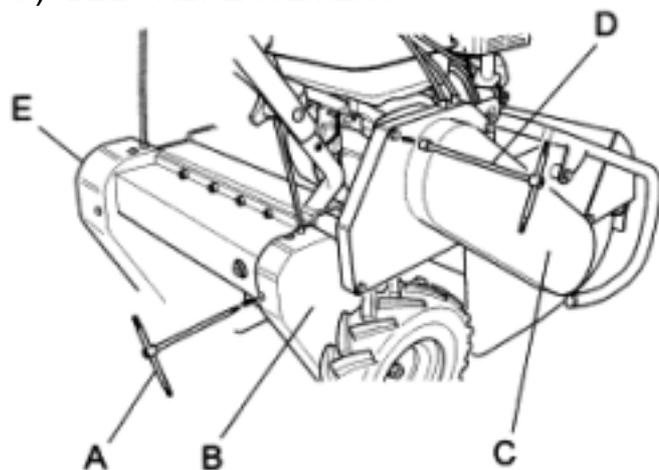

Fig. 6
- Remove the plastic guard ( fig. 6 ref. B, E), by undoing and removing the fixing screws using the wrench illustrated in 6 ref. A.
- Remove the plastic guard ( fig. 6 ref.C), by undoing and removing the fixing screws using the wrench illustrated in 6 ref. D.
- Remove the plastic guard ( fig. 6 ref.C) by undoing and removing the fixing screws using the wrench illustrated in figure 6 ref. D.
- The belt guards (Fig. 6 ref.B,C, E) and flail guards ( Fig. 1 ref. E) must always be correctly installed and intact. If they become damaged, have them repaired before the machine is used again.
- Clean the inside of the belt guard (fig. 6, ref.C, D, E) with a blast of compressed air.